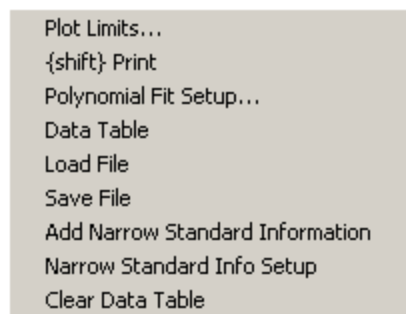

Figure 5-26: The GPC Pop-up Menu
- a) Right click to access the pop-up menu shown in Figure 5-26.